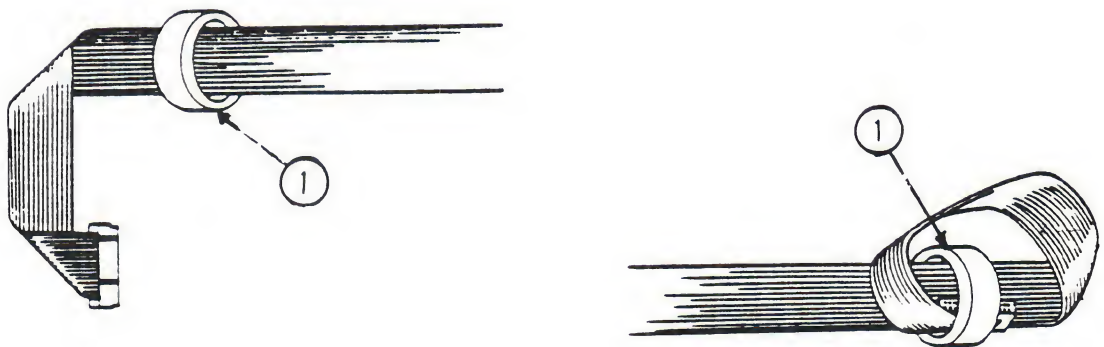

FIGURE 3
# Disk /// Analog Card (Figure 3)
14. When replacing the ribbon cable, twist the cable connector slightly, push it through the toroids and remove the toroids from the cable (Figure 3,#1).